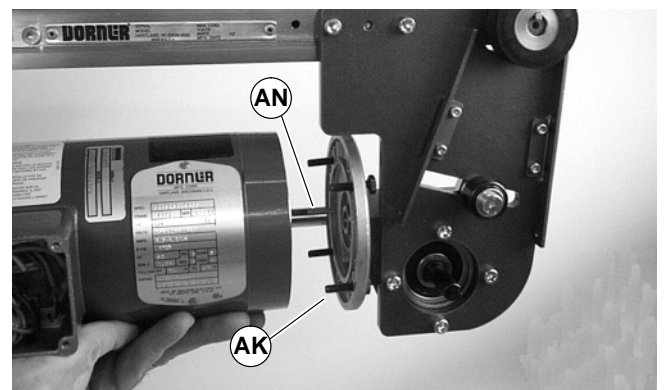

Figure 29
5. With key (AN of Figure 29) in keyway, slide motor and gear reducer together. Install screws (AK) and tighten.